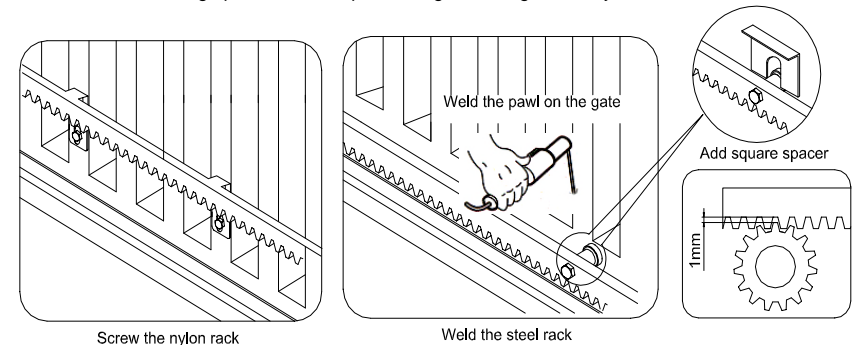

Fig.7
Installing the rack (see Fig.7)
- If necessary, assemble the spacer between the rack and pawl to synchronise the teeth of the two rack elements and keep racks in a straight line. See Fig.7